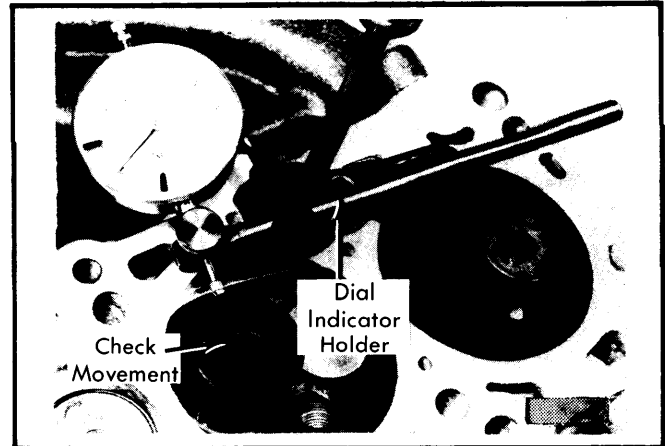

Fig. 3 Checking Valve Guide for Wear
1) With head disassembled, insert new valve and check for wear with dial indicator. See Fig. 3. If wear exceeds .039" (1.0 mm) for intake, or .051" (1.3 mm) for exhaust valve, guides should be replaced.